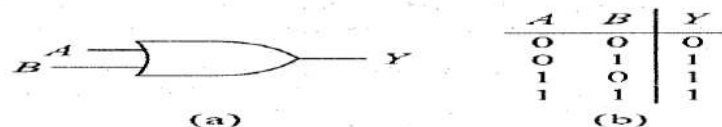

Fig. 2.4 (a) OR gate, (b) Truth table
- This identity is known as De Morgan's First Theorem. In words, it says the complement of a sum equals the product of the complements. This can also be proved by comparing the truth tables shown in Fig. 2.4(b) and NOR gate truth table of Table 2.1. A similar exercise that compares truth tables of three input NOR gate and three input bubbled AND gate show they are identical and we can write, $(A + B + C)' = A'B'C'$. Note that this equivalence can be extended to gates or circuits for larger number of inputs, too.